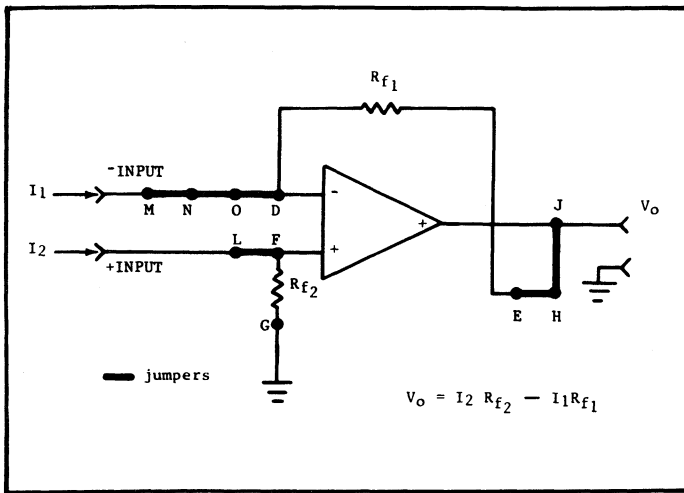

FIGURE 8. Differential Current Amplifier
3. Differential Current Amplifier (Without Fractional Feedback). In this mode two feedback resistors R_{f1} and R_{f2} are connected as shown in Figure 8. The output voltage is a function of the difference between input currents I_1 and I_2 where $V_o = (I_2 - I_1)R$ (assuming $R_{f1} = R_{f2} = R$).